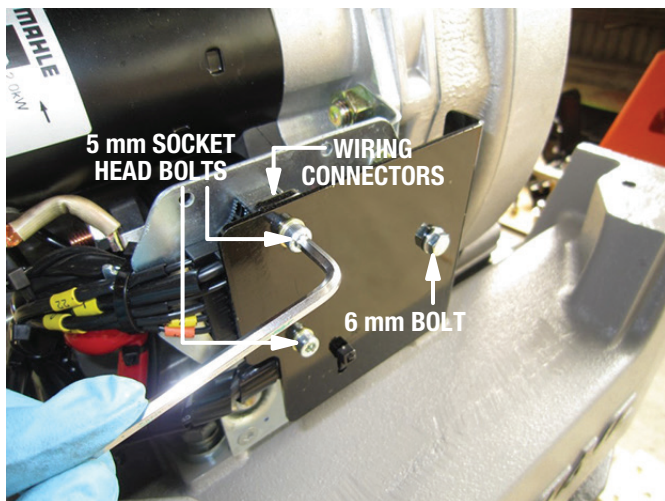

Figure 26. Electrical Panel Installation
- Secure the electrical panel to the plate behind it with the 6 mm bolt and two 5 mm socket head bolts that were removed earlier (Figure 26). **MAKE SURE** the two existing wiring connectors are secured between the panel and the plate with the 5 mm socket head bolts as shown.